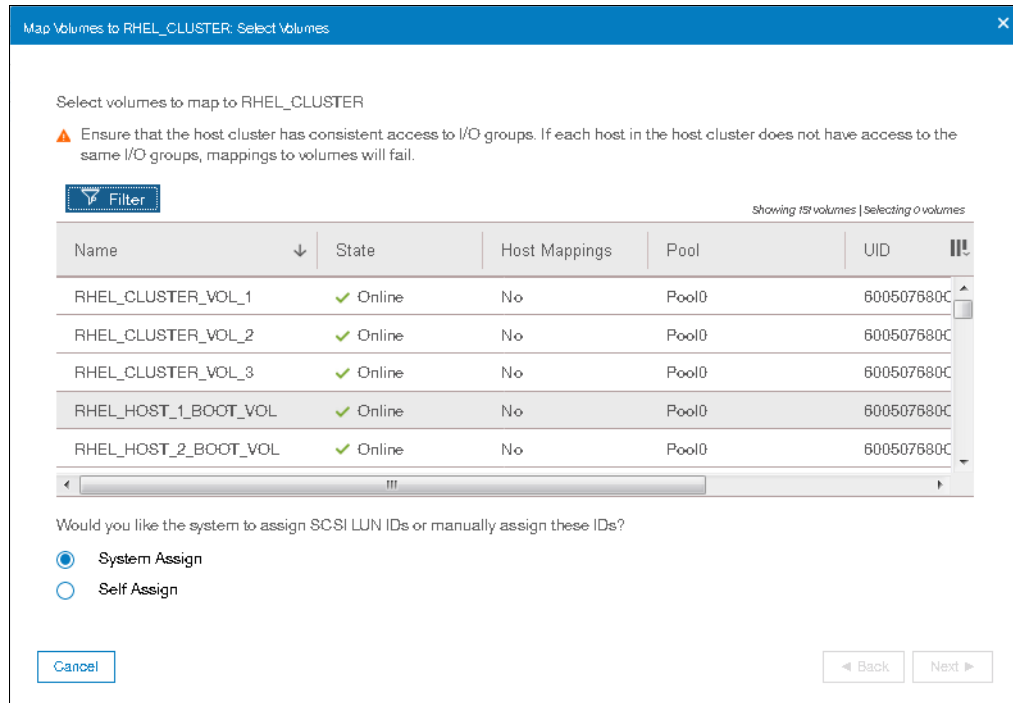

Figure 5-90 Volume list
4. Click **Add Volume Mappings** which will bring up a window listing the volumes which you can select to assign to host cluster as shown in Figure 5-90 on page 254.